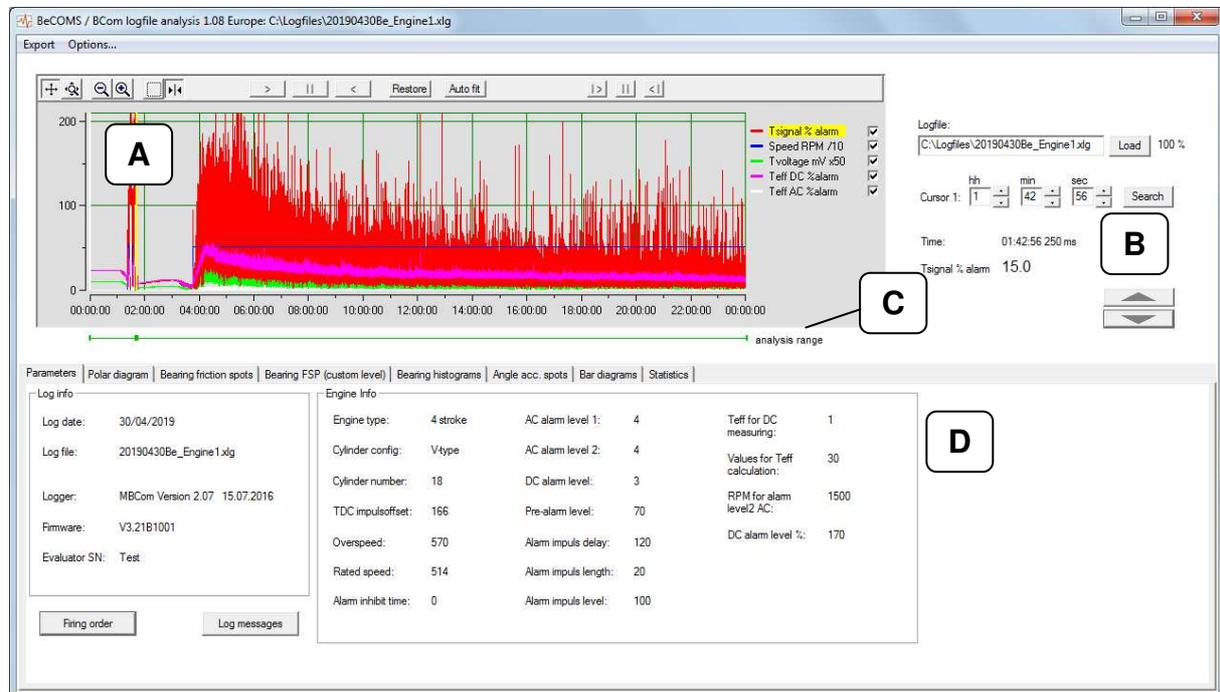

Fig.4. BeCOMS® logfile analysis window
1.1. Linear plot (Fig. 4, A)
(Fig. 4, B)
1.3. Analysis range (Fig. 4, C)
The horizontal bar below the linear plot is a time range indicator for additional analysis diagrams displayed below in tabs (Fig. 4, D).
(Fig. 4, D)